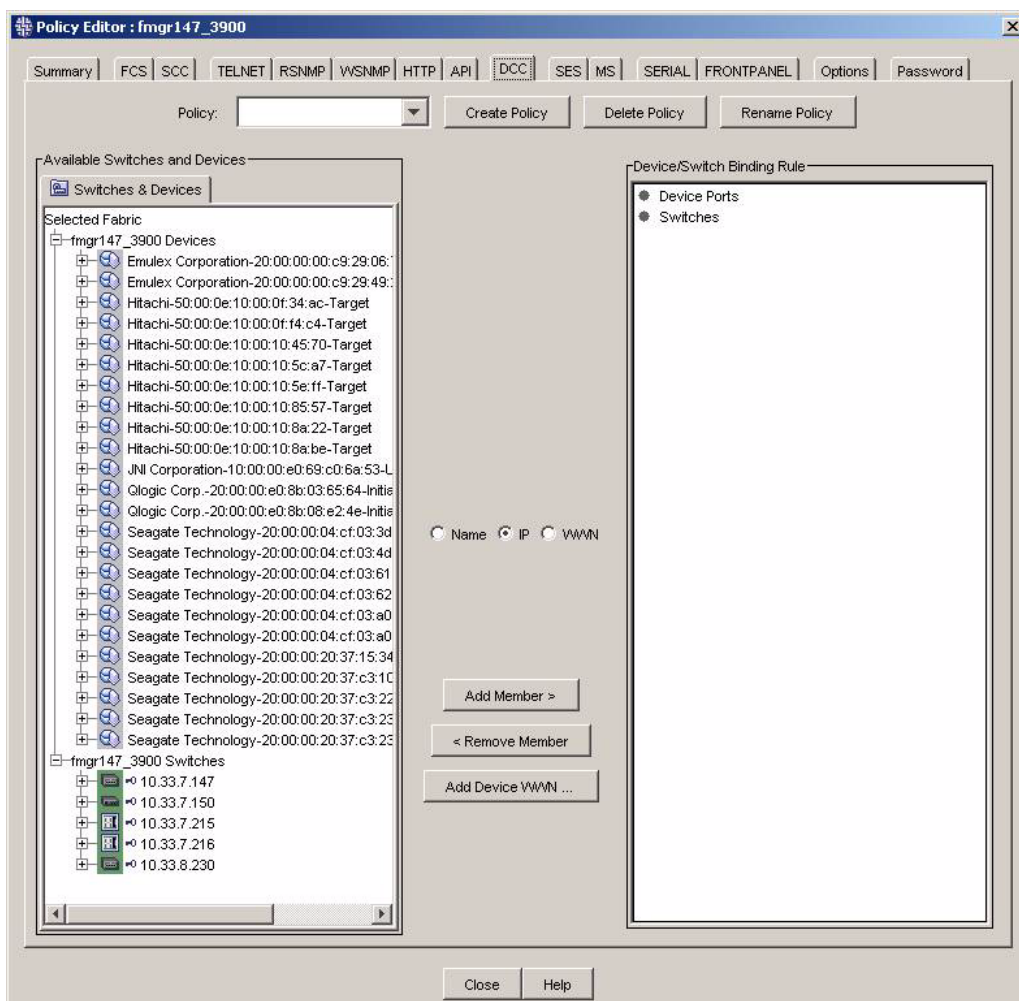

Figure 177 Configuring the DCC policy
3. Click the **DCC** tab (see Figure 177).
3. Select the **DCC** tab (see Figure 177 on page 292).